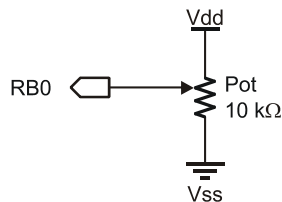

Figure 13-3: Threshold Test Circuit
1. Connect a 10 k Ω potentiometer and LED as in Figure 13-3. Write a program that allows you to test the threshold voltages for TTL, CMOS, and Schmitt trigger inputs by transferring the state of the input pin to the output LED. You can measure the input pin's voltage with a common voltmeter.